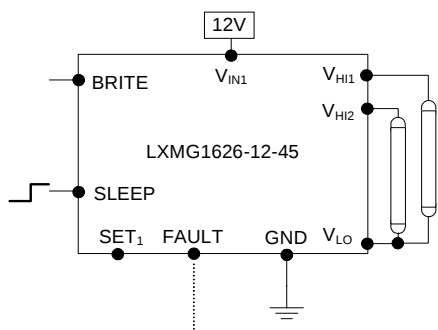

Figure 2 – FAULT Output Operation
- Input connector (CN1-8) FAULT signal which is normally low will toggle high to indicate that an output fault condition has occurred as summarized in the table to the left figure 2. FAULT will toggle high if one or both lamps are open or short circuited. If only one lamp opens, or its high side shorts to ground then the other lamp should continue to operate with the FAULT signal going high. If both lamps open and/or both lamps are shorted the FAULT will toggle high if it is not already high and the inverter output will shutdown. Also if either low side connection of the lamps is shorted to ground, or the lamps are shorted high side to low side, FAULT will go high and the inverter will shutdown. In order to restart the inverter after a fault it is necessary to toggle the SLEEP input or cycle the V_{IN1} input supply. In fault induced shutdown mode the inverter will draw about 15mA from V_{IN1} supply.